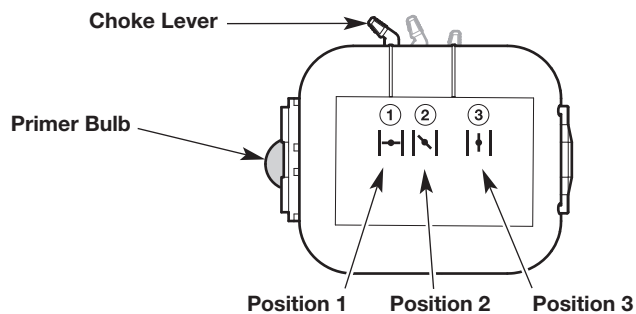

Fig. 12
1. Slowly press and release the primer bulb **10 times** (Fig. 12). If fuel cannot be seen in the primer bulb, press and release the primer bulb until fuel is visible.
2. Move the choke lever to **Position 1** (Fig. 12).
6. Move the choke lever to **Position 2** (Fig. 12).
9. Move the choke lever to **Position 3** (Fig. 12). Allow the engine to warm up for an additional 60 seconds. The unit may be used during this time.
IF... the engine hesitates, return the choke lever to **Position 2** (Fig. 12) and continue the warm-up.